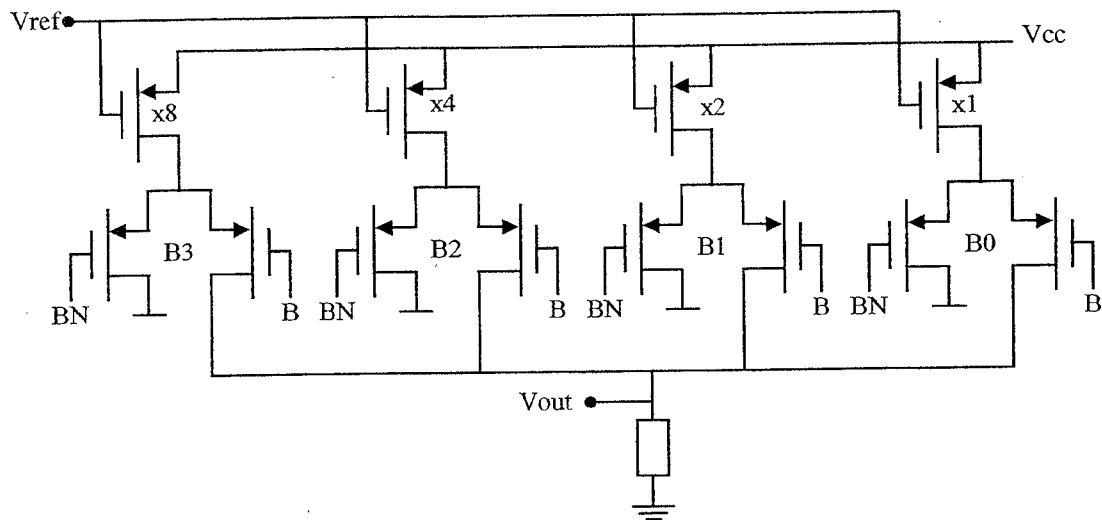

Figure 3a
3. (a) An integrated circuit (IC) digital-to-analogue converter (DAC) is implemented using weighted current sources as shown in *Figure 3a*. Outline the purpose of the lower devices and explain why it is necessary to use asymmetrical switching signals B/BN. The matching of the DAC current sources is required to be better than ± 0.5 LSB. Calculate the required matching accuracy of the DAC MSB current source if this architecture is extended to implement (i) an 8-bit DAC, (ii) a 12-bit DAC.